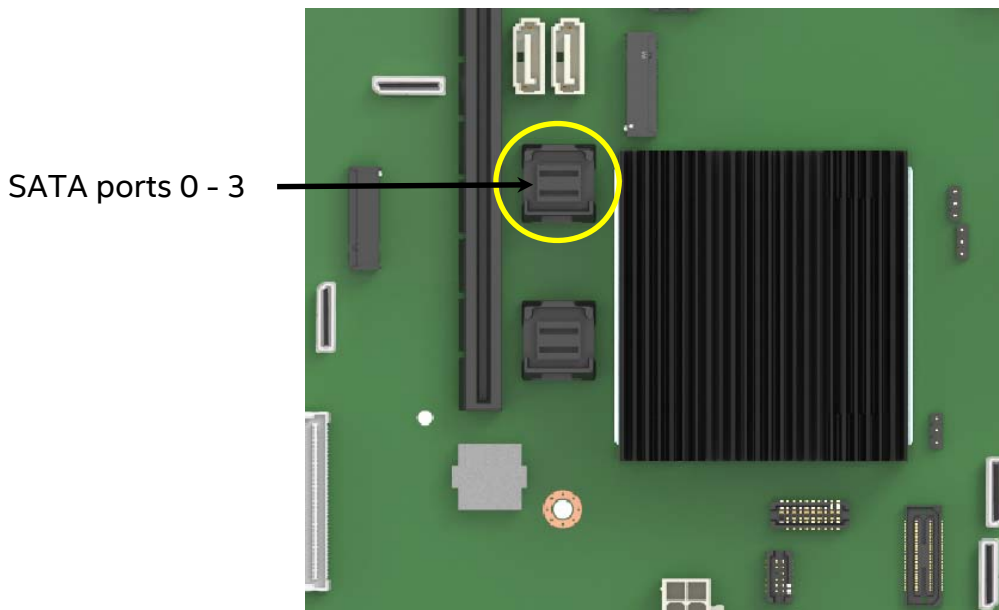

Figure 8. On-Board Mini-SAS HD Connectors for embedded SATA Support
- b) Attach the P1 (Straight Connector) end of the SAS/SATA Data cable to the specified mini-SAS HD connector on the backplane (see Figure 8).